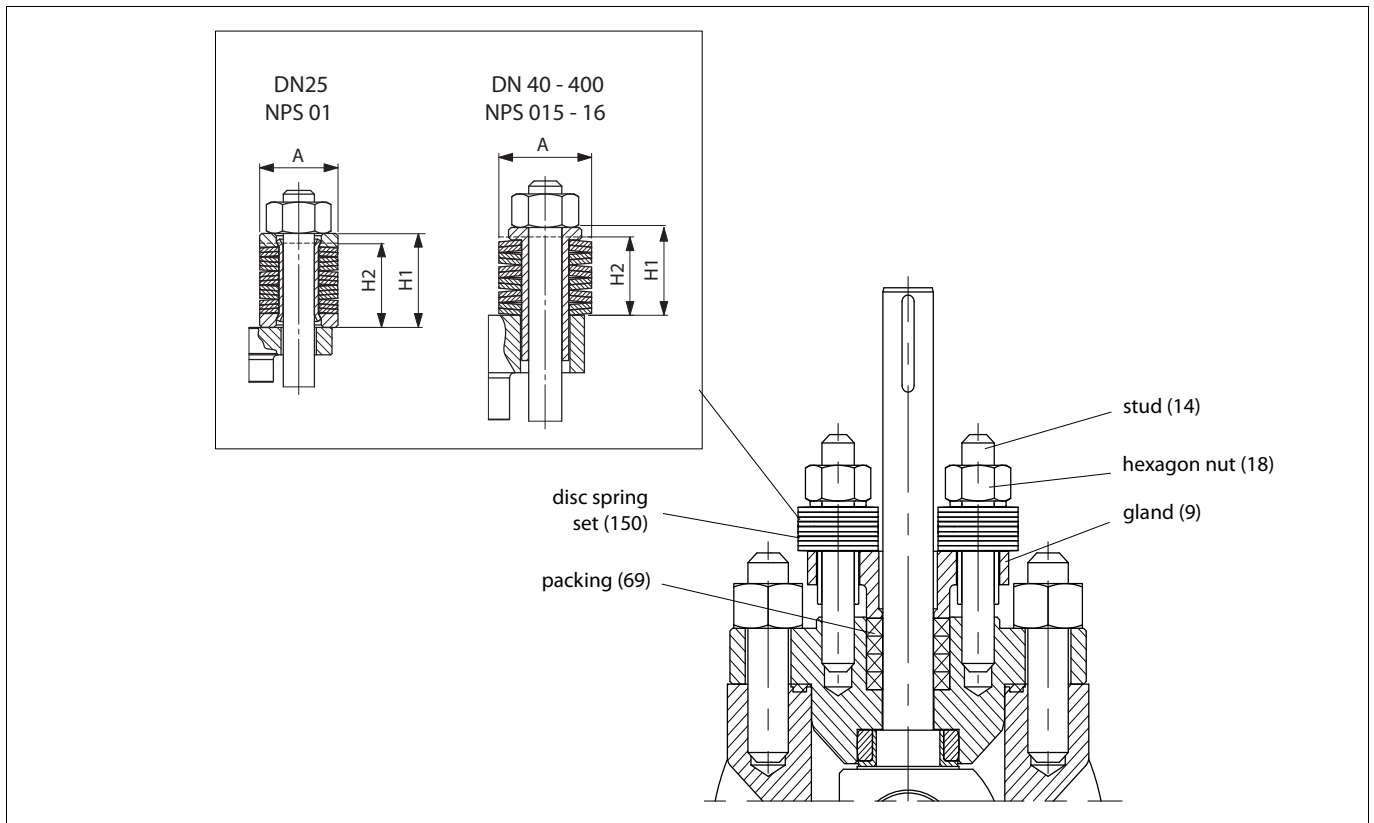

Fig. 9. Gland packing
- ❑ Pre-compress the packing rings (69) first tightening the gland nuts (18) to the torque T_t . See Fig. 9 and the value from Table 2.
- ❑ Retighten the nuts (18) to the torque T_t , see table 2.
- ❑ Check leakage when the valve is pressurized. If the leakage still occurs when the valve is pressurized, retighten the nuts (18) but don't exceed the torque T_t value in the Table 2 by 50 %.
- ❑ Pre-compress the packing rings (69) first tightening the disc springs (150) to the height H_2 . See Fig. 9 and the value from Table 2.
- ❑ Retighten the disc springs (150) to the height H_2 , see table 2.
- ❑ Check leakage when the valve is pressurized. If the leakage still occurs when the valve is pressurized, retighten the disc springs (150) but do not fully compress (totally flat) them.